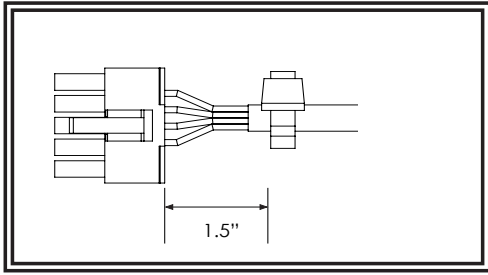

FIGURE 5
5. Place zip-tie 1.5" from base of the connector shown in Figure 5. Zip-tie must not be able to slide on cord. Trim excess zip-tie.